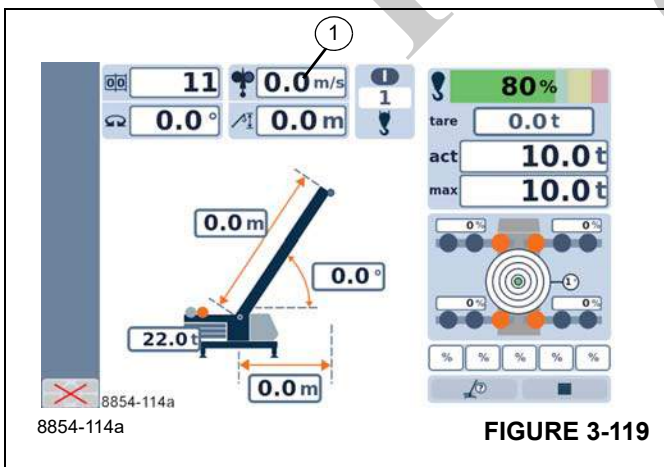

FIGURE 3-119
1	Display in meters per second (m/sec) or Beaufort scale (B) (Figure 3-119)